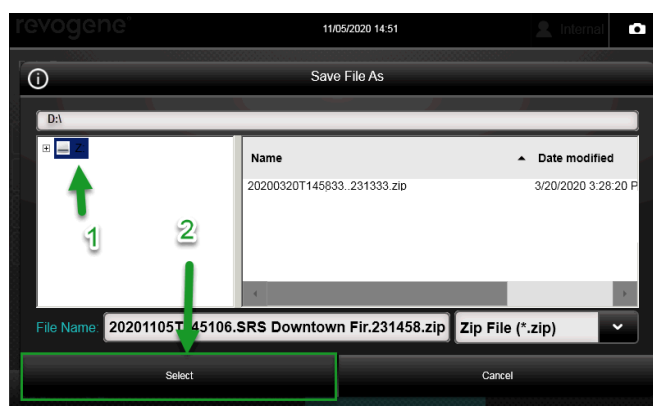

Figure 21. Saving Troubleshooting Package
- f. Save the package on the same USB key (D:) by pressing select. **Note: You will see another zip file on the key, do not select it before pressing select** (Figure 21).